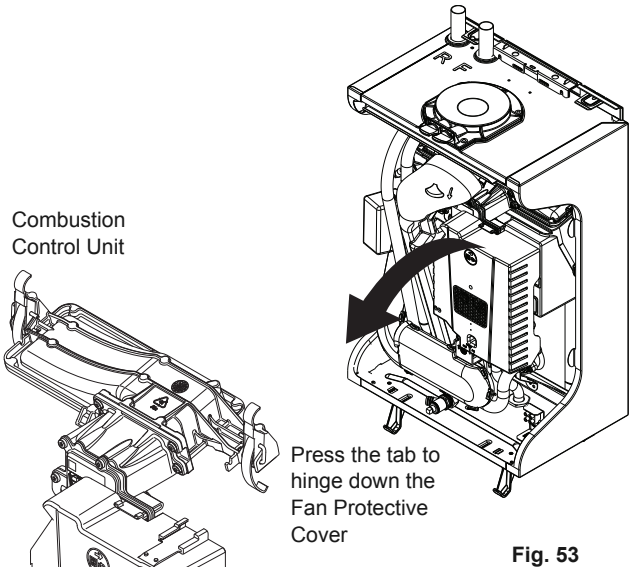

Fig. 53
10.3.10 Combustion Control Unit (Figs. 53 to 57)
2. Disconnect the cable from the bottom of the PCB, disengage the fan protective cover securing tab and lower the cover after disconnecting the electrical test point (Figs. 53 & 54)